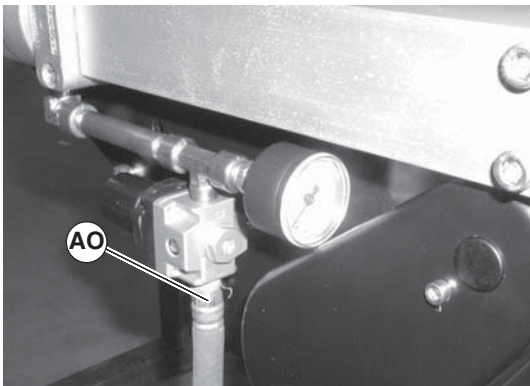

Figure 19
1. Remove air supply and remove hose (Figure 19, item AO) from center drive.